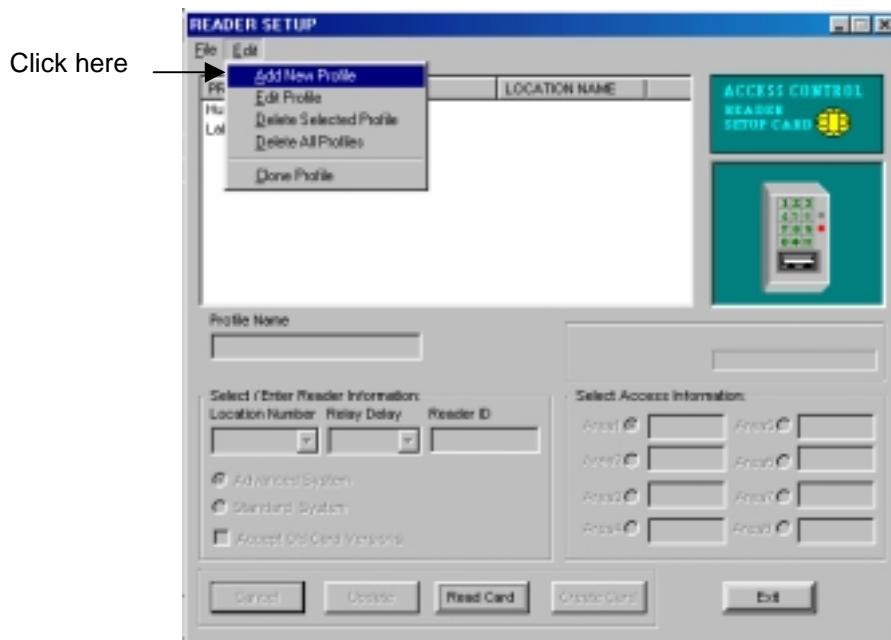

Figure 11.33 Adding a Reader Setup Profile
1. In the Reader Setup window select Add New Profile from the Edit drop-down menu (Figure 11.33).